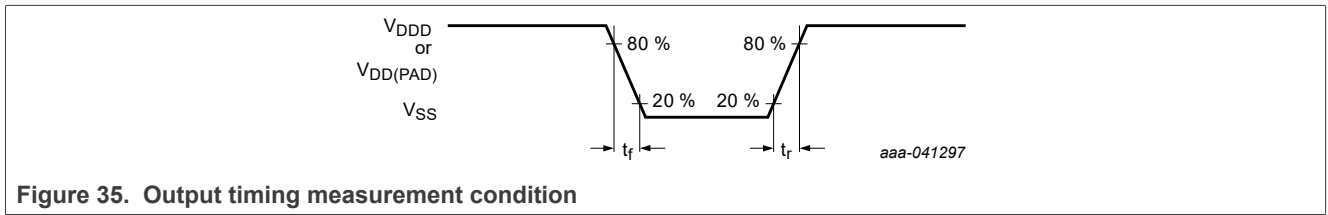

Figure 35. Output timing measurement condition
- [1] See Figure 35.
- [2] See Figure 35.